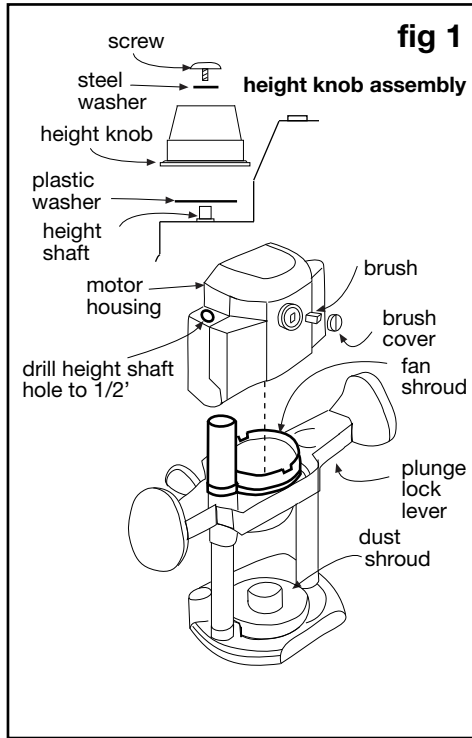

fig 1
Using fig 1 support router upside down on bench and place locating pin into bottom of #1 mainshaft head. Secure subbase to router base gently tightening screws. Using a hammer gently tap the subbase over the pin. Remove subbase and drill hole on center punch mark using the Router Raizer template instructions.
- Using (fig 1) select #30 dust cover insert (1/2" dia, X 3/16" tall, turned aluminum ring) and #31 dust cover (3/8" dia. X 1/8 thick stamped steel plug) From top of insert plate, press #30 cover insert into the 1/2" Router Raizer access hole until flush.
- 1. Removing dust cover:** Using (fig 1) place #29 speed wrench over #31 dust cover, lift speed-wrench to remove dust cover. Leave dust cover on wrench while making height adjustments.
1. Remove height knob assembly (fig 1). Remove both brush covers (fig 1) remove brushes one at a time, labeling the top and side of router removed from on each brush.
- Using (fig 1). Unplug router from power source, place power switch in the on position and secure switch with a nylon tie strap or wrap handle and switch with tape. This step retains the switch mechanism during separation and installation.
- Remove height knob assembly (fig 1). Remove both brush covers (fig 1) remove brushes one at a time, labeling the top and side of router removed from on each brush.